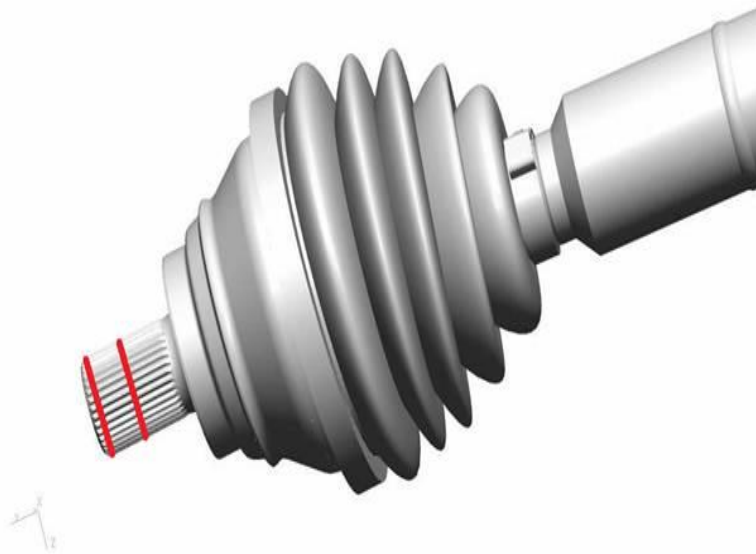

Figure 1. Apply locking fluid around the threaded connection.
3. Apply liquid locking fluid as shown in Figure 1 (red lines around the threaded connection).